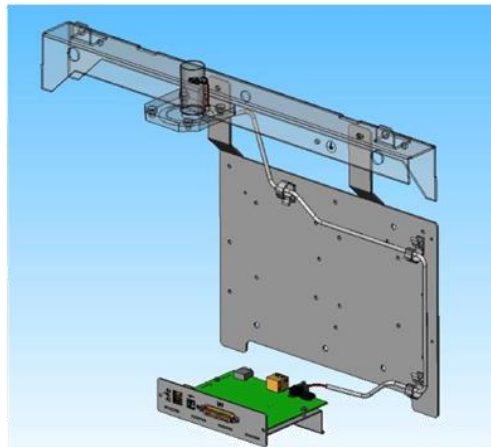

Figure 8: Flapper Box Wiring Harness Layout
14. Install the Flapper Box Wiring Harness, as shown (“Figure 8: Flapper Box Wiring Harness Layout”), utilizing the top two wire clips, only use bottom wire clip, if accessible. These wiring harness clip locations may not be accessible on the G8610, G8611, and G8612 models.